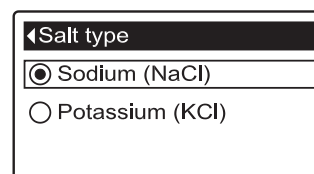

FIG. 27
5. Press the SELECT (O) button to display the Salt type menu (See Figure 27).
6. If the desired salt type already has a black dot next to it (See Figure 27), go to Step 7. Otherwise, press the conditioner/refiner's DOWN (▼) or UP (▲) buttons to scroll to the other salt type, then press SELECT (O) to choose it.
7. Press the SELECT (O) button. The display will go back to the Salt settings menu.